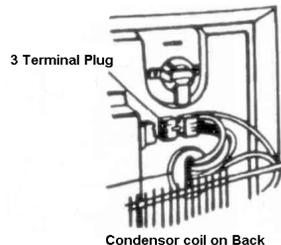

Figure 15
10. Check the inside of the freezer if an electrical connection is provided you can use one of the shorter harnesses. If your wiring is through the back, connect the icemaker 3 terminal plug to the connector on the back of the refrigerator (see Figure 15 & 16). On the "coil on the back" models, route the tan and white wires down and behind the condenser coil. On the "wiring / tubing" models, run beside existing tubing using existing clips.